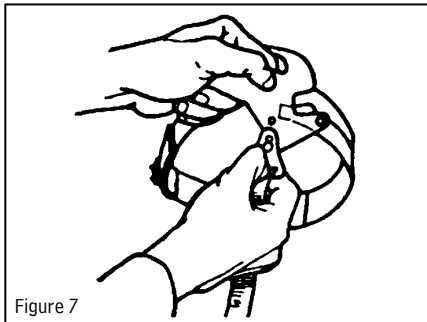

Figure 7
To improve suspension comfort, adjust crown straps vertically by repositioning the crown strap posts in the crown straps. Vertical adjustment makes the headband ride higher or lower on the wearer's head. To adjust, push crown strap post from slot, move to new slot, and snap in to secure. Move key to desired vertical position. Repeat for other crown strap post (Figure 7).
3. Align holes on chin strap to stud buttons and pull downward to lock in place (see Figure 7).